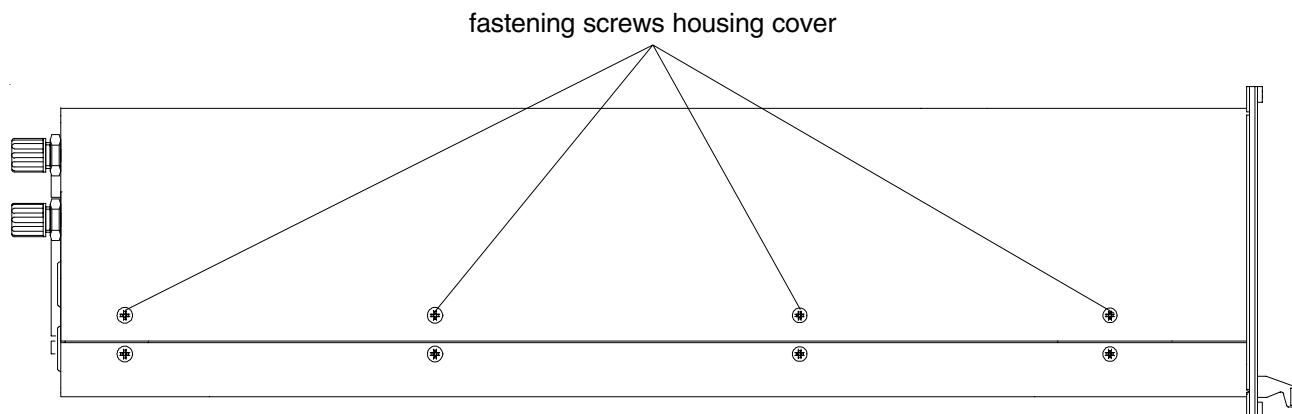

Fig. 15-3: MLT 1 (1/2 19" housing)
- Unscrew the respective fastening screws at both housing sides (Fig. 15-3)